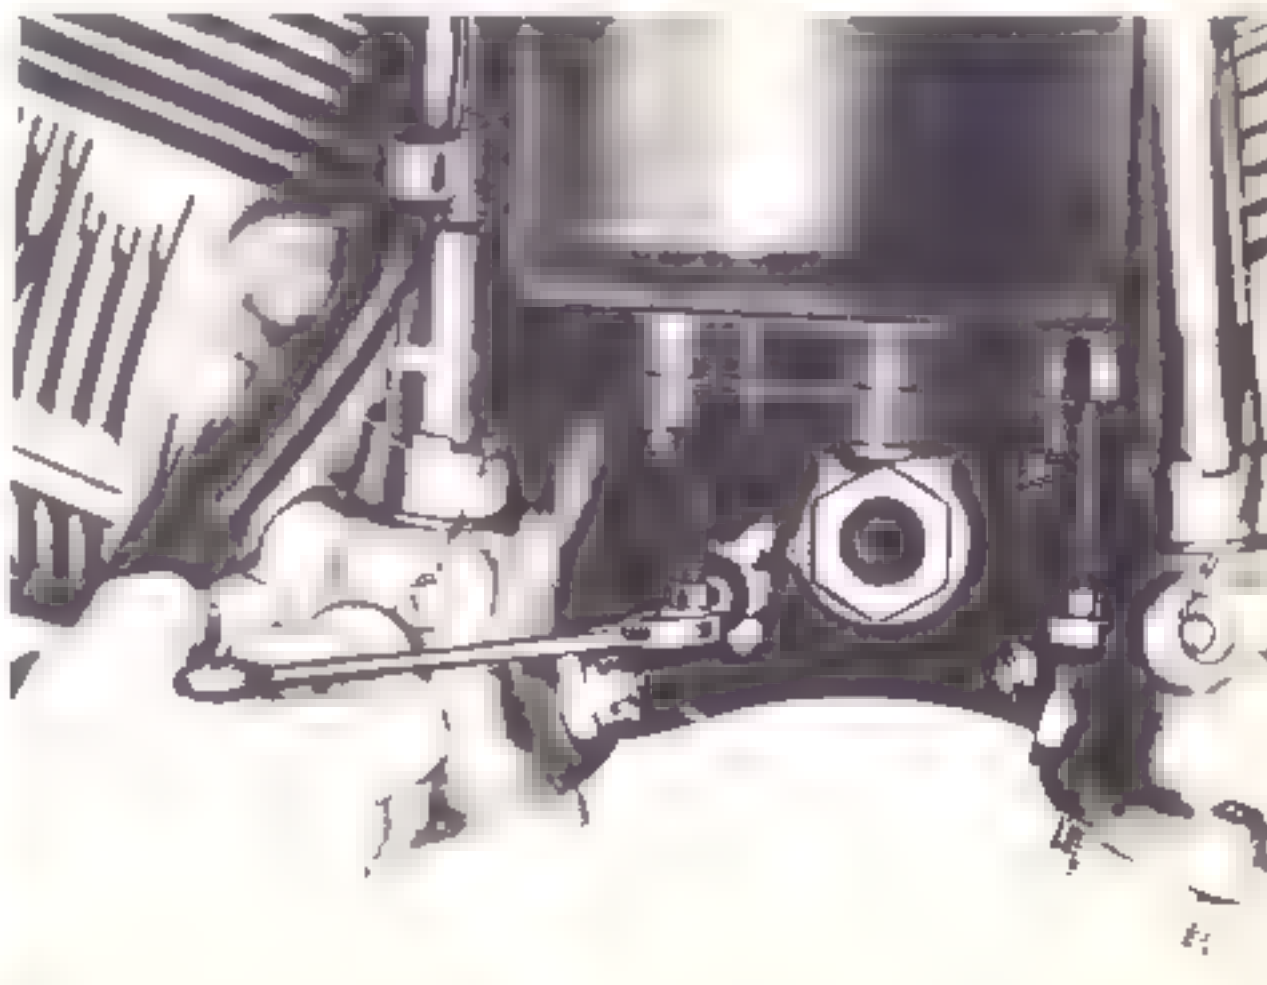

Figure 5-55. Pulling front oil pumps from front oil sumps
c. Install two suitable puller bolts in holes located in flange of front oil pump. Screw puller bolts evenly until front oil pump is withdrawn from front oil sump. (See figure 5-55.)